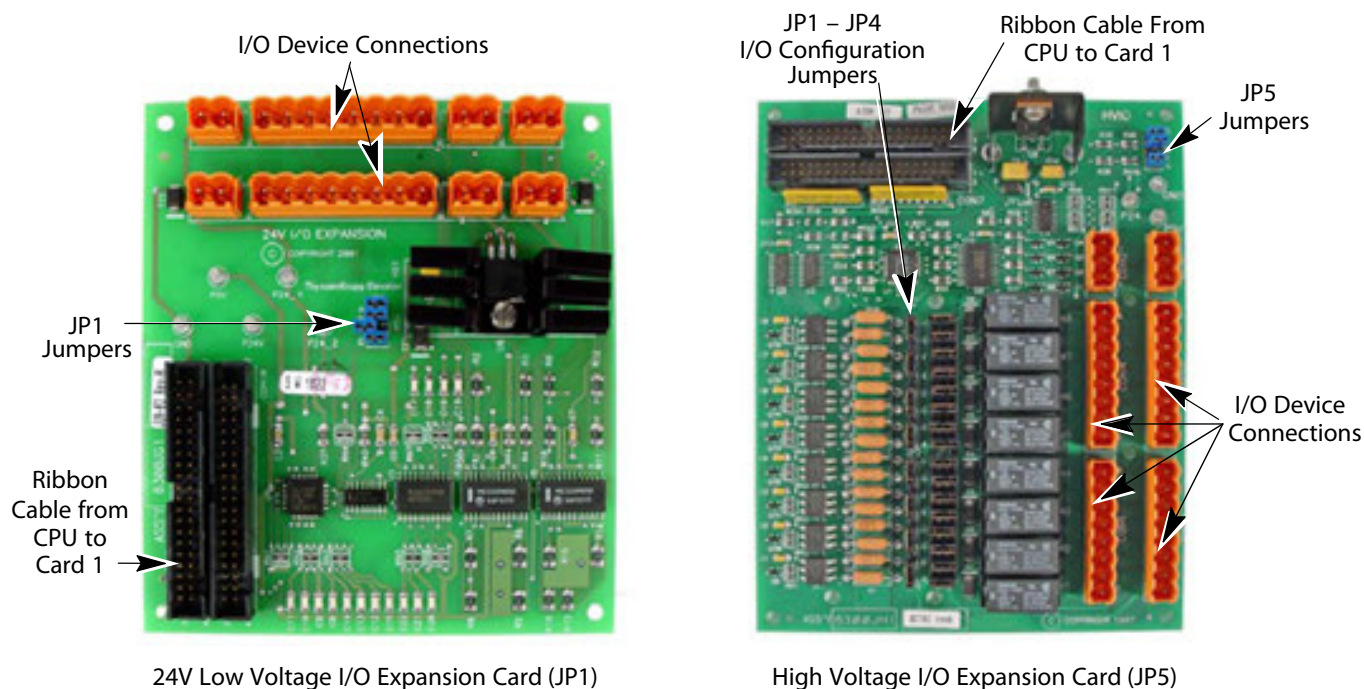

Figure 18 - I/O Expansion Card Jumper Verification
1. If I/O expansion cards are present, configure their addresses using either JP1 (low voltage) or JP5 (high voltage) jumpers. See Table 4 and Figure 18 on page 41 for details.